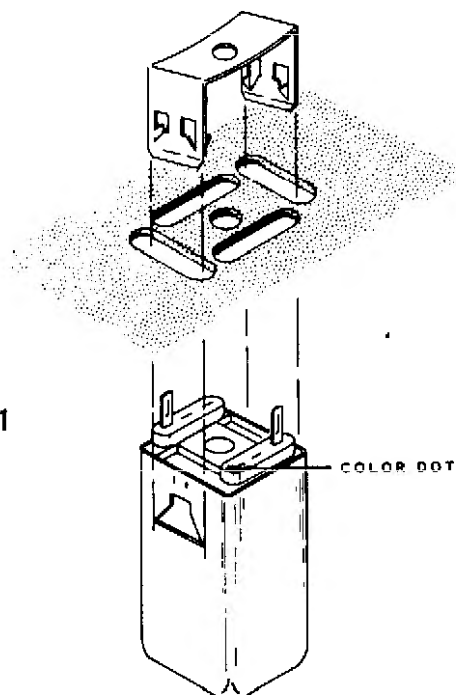

Figure 1
- () Install the high frequency coil (#40-748) at L2 as shown in Figure 1. Push the mounting clip all the way until the teeth lock into the sides of the can.
- () Install the coil selected for L2 as shown in Figure 1.
- () Connect a .02 μ fd disc capacitor from lug 3 of terminal strip L (S-2) to lug 2 of coil L2 (NS).
- () Connect a 2" hookup wire from lug 2 of coil L2 (NS) to lug 1 of terminal strip B (S-3).